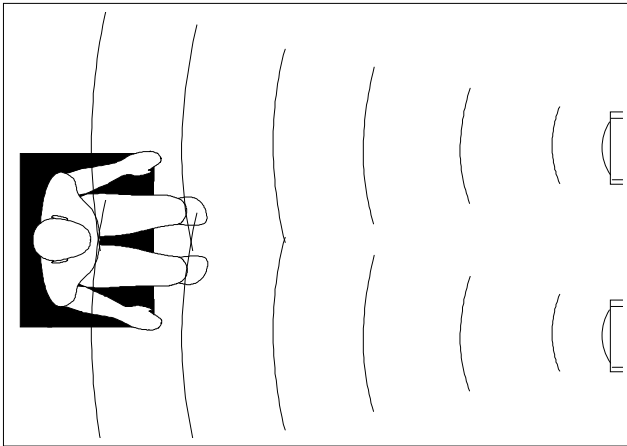

Figure 1. Martin-Logan Stylos deliver a 30 degree wave launch dispersion pattern distributed horizontally.
STEP 1 (Figure 1)
Step 2 (Figures 1 & 2)
Your Stylos launch a 30 degree dispersion pattern when viewed from above. This horizontal dispersion field gives you a choice of good seats for the performance while minimizing interaction with side walls. See *Figure 1*.